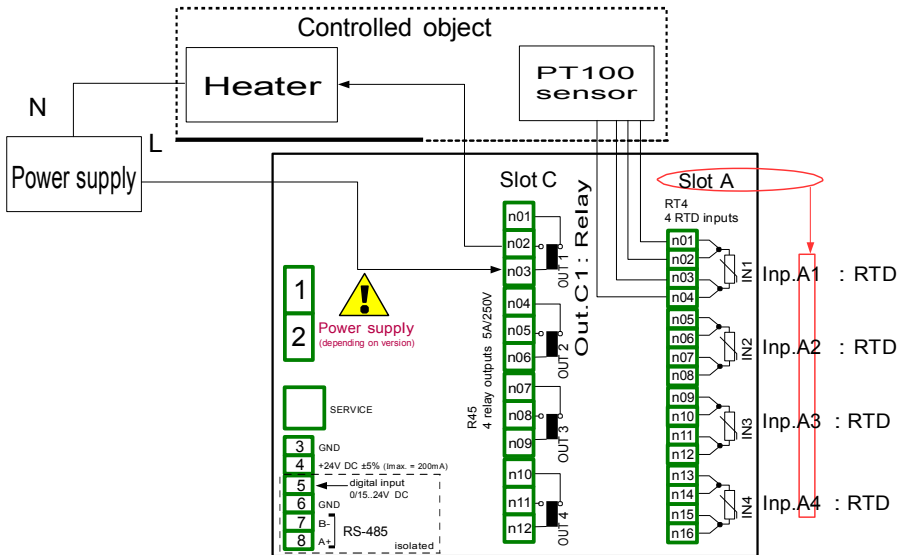

Fig. 7.92. Schematic diagram for the RTD input and Relay output modules
First configure the device as described below, then connect the object and power supply as shown on Fig. 7.92.
To control temperature in object shown on Fig. 7.92, it is necessary to configure one Logical channel and Relay output.
- Source parameter set as Inp.A1 : RTD (see Fig. 7.92),
- using the arrows in the top navigation bar, select a relay output which is connected to heater. For this example it is the output named Out.C1 : Relay (see Fig. 7.92),